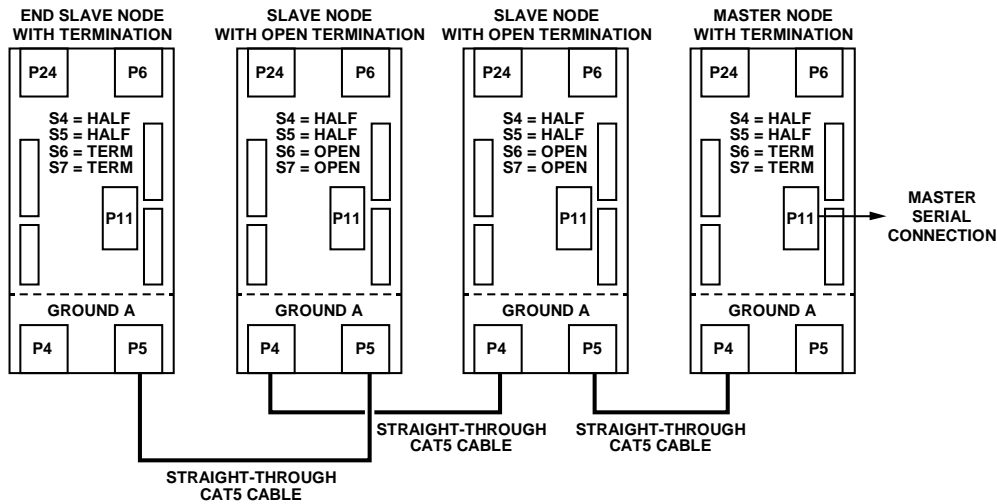
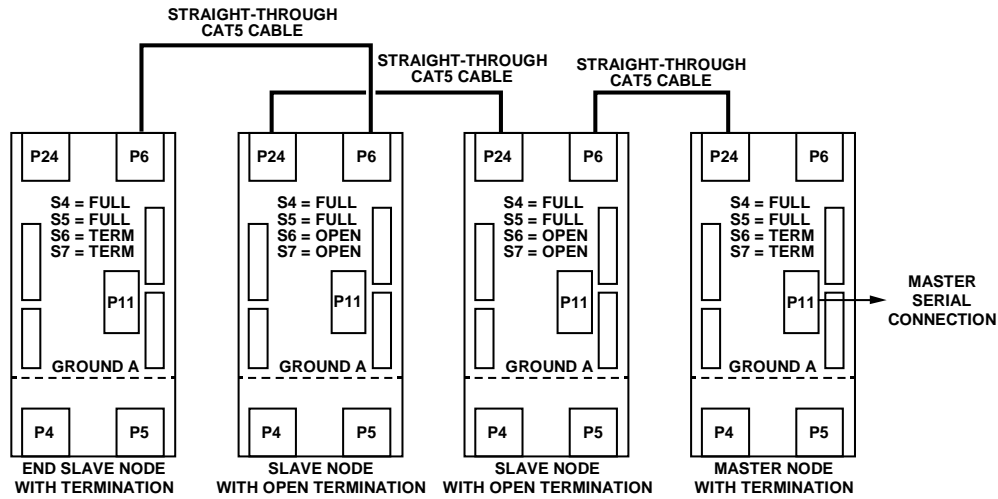

Figure 5. Three Node Half-Duplex Switch Settings and Connection Diagram Using ADM2682E Isolated RS-485 Communications
Figure 6. Three Node Full-Duplex Switch Settings and Connection Diagram Using LTC2865
the receiver, whereas the inverting output of the driver is shorted with the inverting input of the receiver. This configuration allows for a 2-wire RS-485 network, but the bus can only accommodate data transmission in one direction at a time. The driver and receiver enable pins are required to assure that only one driver is enabled to send data at a time. Figure 5 shows the connection setup for a three-slave node half-duplex
Table 3. Nodes and Switch Settings for Figure 5
The circuit shown in Figure 5 can be set to full-duplex mode for both isolated and nonisolated communications via S5 and S4, respectively. In full-duplex mode, the circuit uses all receiver and driver inputs and outputs, respectively. This allows for a 4-wire RS-485 network and can accommodate simultaneous data transmission in both directions between master and slave nodes. Figure 6 shows the connection setup for a three-slave
**Table 4. Node Types and Switch Settings for Figure 6**